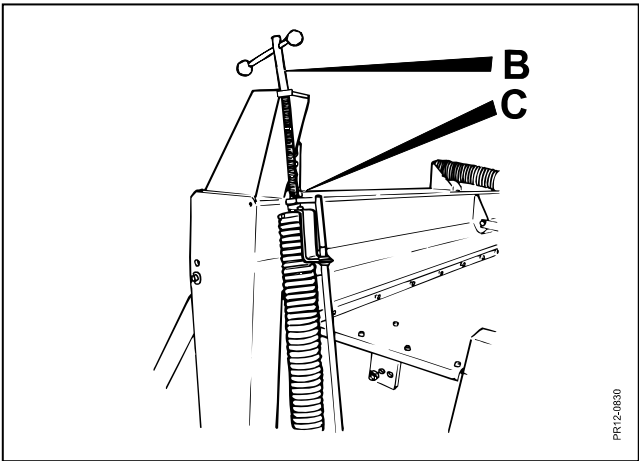
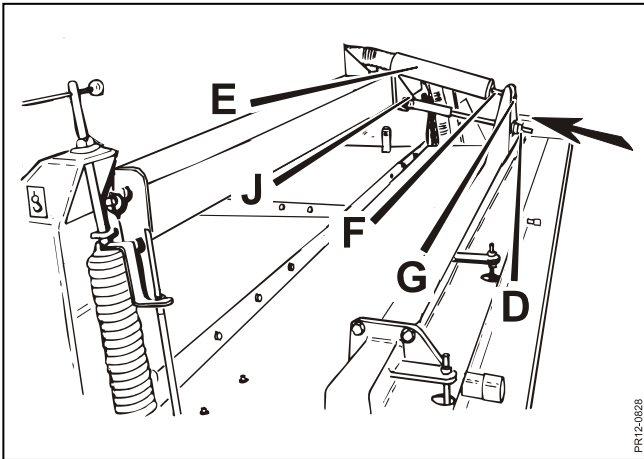

Fig. 3-9
Fig. 3-12
- Fig. 3-12** The vernier adjustment is made by adjusting the inclination of the cutter bar on the spindle at **D**. A spring cotter **J** secures the adjustment. Adjustment is made in both sides!
- Fig. 3-9** 3) The height relief springs are adjusted with the handle **B**, until the cutter bar **has** a suitable ground pressure.
- Fig. 3-9** A counter nut **C** secures the adjustment.
- Fig. 3-12** 4) The **Top Safe** spring **E** is adjusted until the cutting platform can be moved in the direction of the arrow, with a **suitable pressure**.
- A) By loosening the horizontal top springs a little (Fig. 3-12) page 32, and tightening the vertical height relief springs a little (Fig. 3-9).